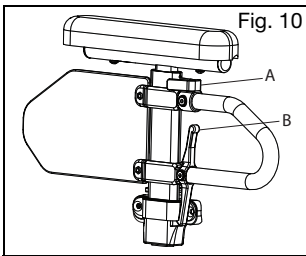

Fig. 10
- b. The armrest will automatically lock into place. Check to make sure the locking lever is as shown (Fig. 10:B).
- a. Rotate the release lever (Fig. 10:A).
- d. Push the arm pad until the upper arm locks firmly into place. Check to make sure the locking lever is as shown (Fig. 10:A).
- a. Squeeze the release lever (Fig. 10:B) and remove the armrest.